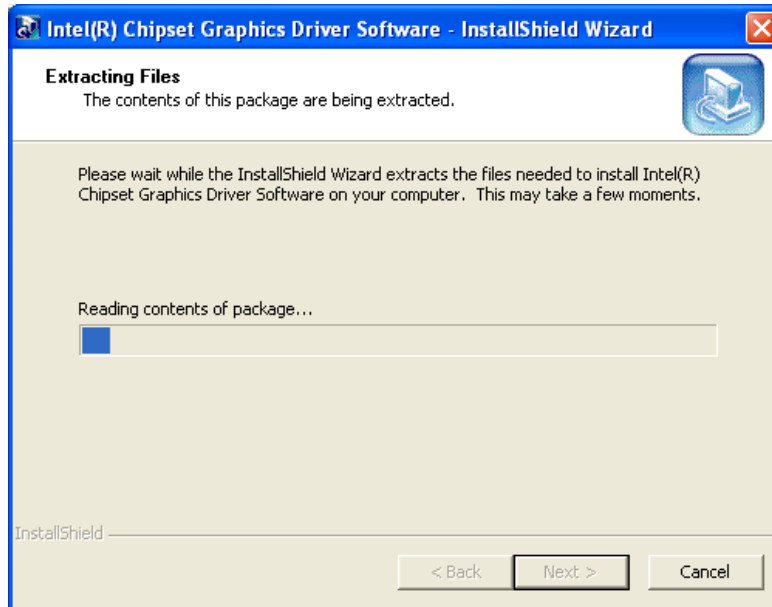

Figure 5-8: Graphics Driver Setup Files Extracted
Step 6: The installation files are extracted. See Figure 5-8.